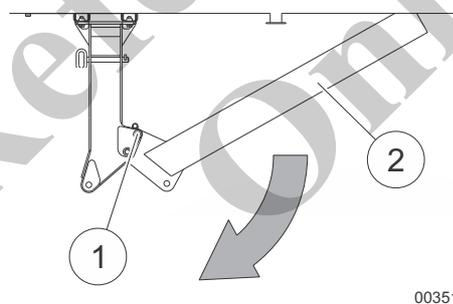

Fig. 193 Releasing and unfolding the ramp
- 12 Release the bolt (1) in Fig. 193 on the ramp. Fold out the ramp (2) in Fig. 193.